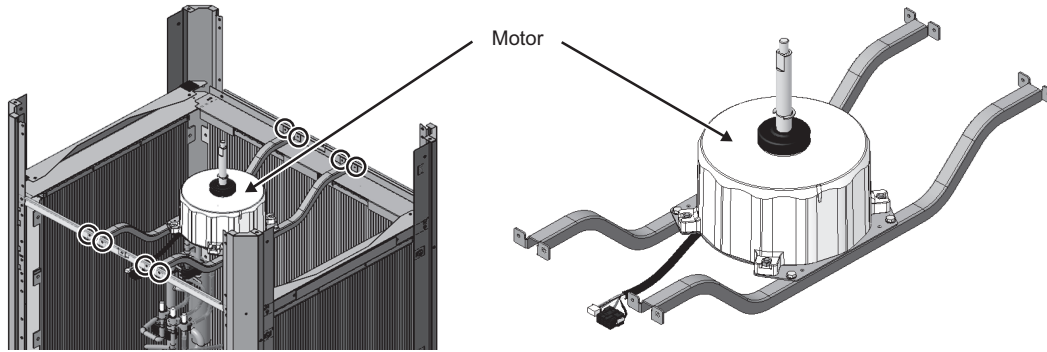

Fig. 9
(9) Remove the motor. (Eight screws: Fig. 9)